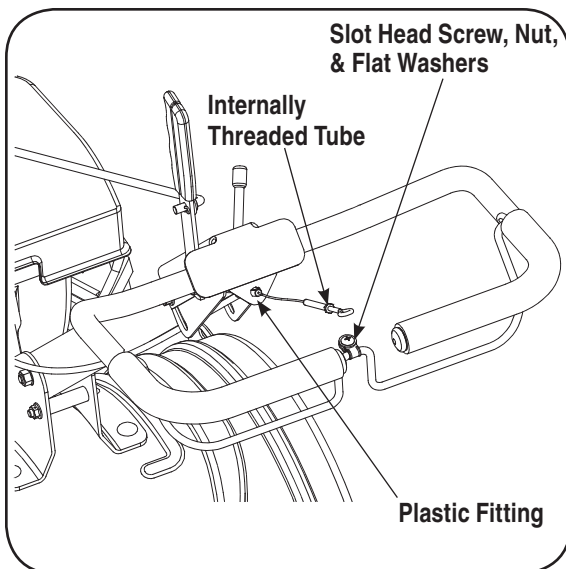

Figure 3-3
- Push the cable through the hole in the center of the handle and snap in the plastic fitting. See Figure 3-3.